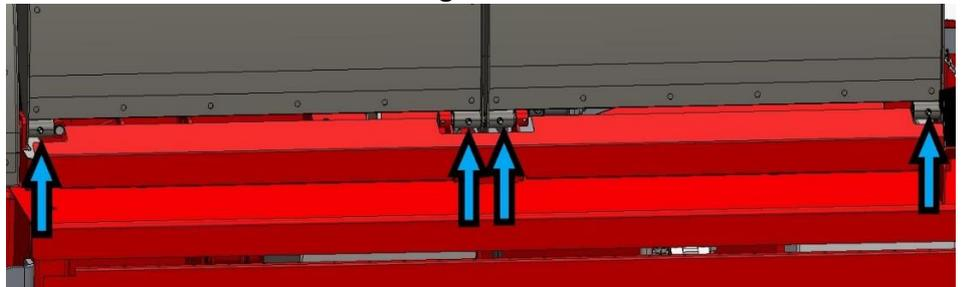

Figure 52.
- 12. Guard nipples (4 pcs, Figure 52).